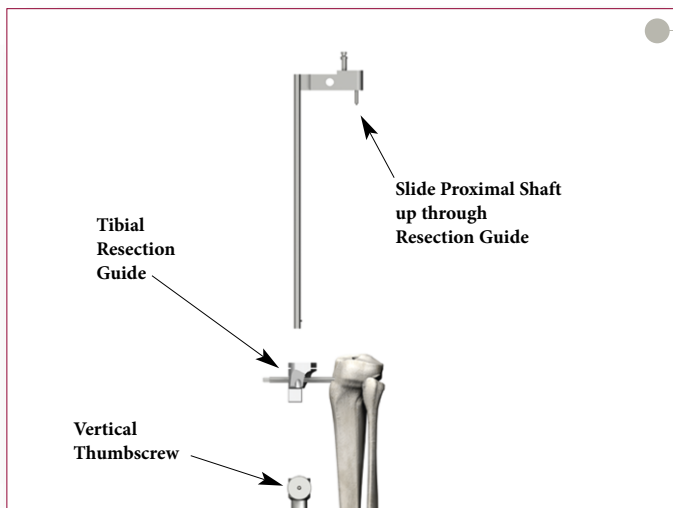

Figure 53
- ▶ Remove the proximal shaft of the alignment guide by sliding it up through the top of the resection guide (Figure 53).